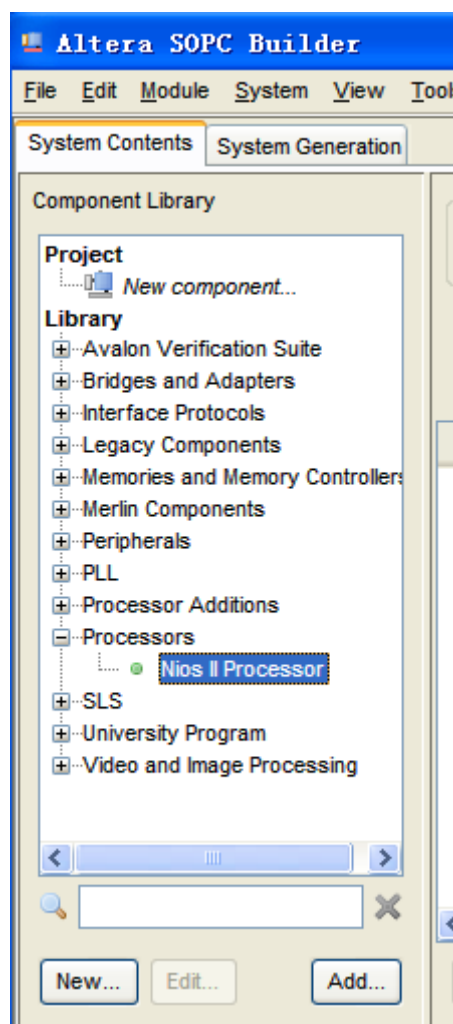
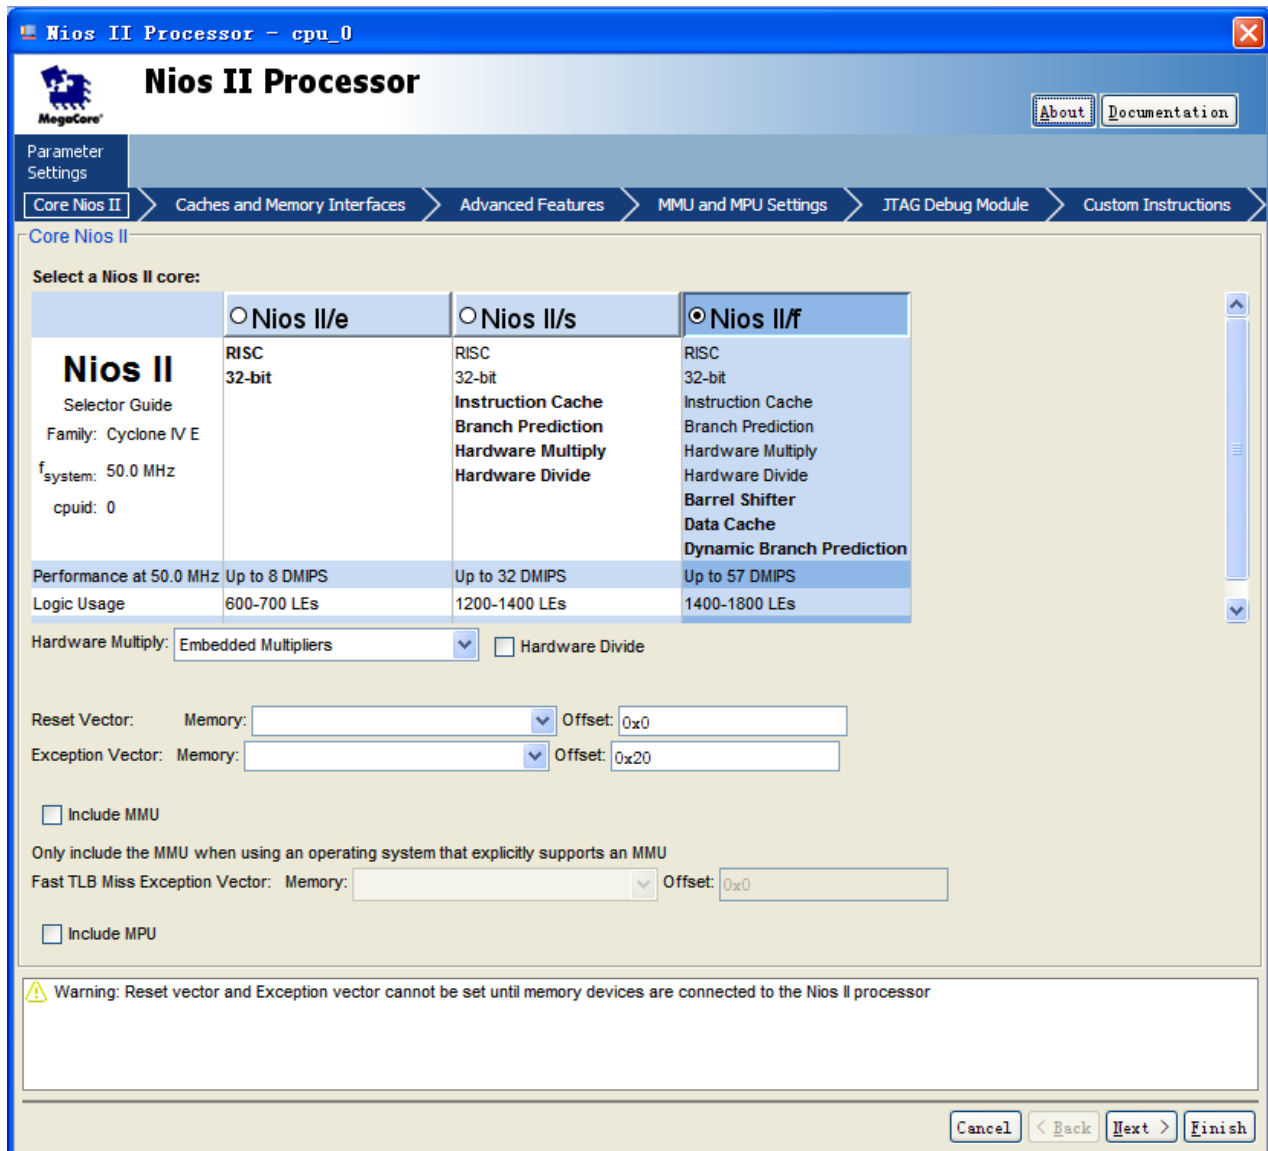

Figure 7-14 Add NIOS II Processor
Figure 7-15 Nios II Processor
8. In the lefthand-side Component Library tree, select **Library > Processors > Nios II Processor** and click the **Add...** button to open the Nios II component wizard, as shown in Figure 7-14 and Figure 7-15.